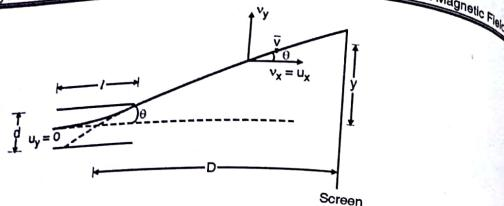

Fig. 7.2.1
In Fig. 7.2.1 we have two plates with length 'l' and separated by a distance 'd'. The upper plate is having positive charge and the lower plate is having negative charge.
- The path of electron will become parabolic till it takes an exist and later move on straight line path with velocity  $v$ , (with  $u_x = v_x$ ) and hit the screen at deflection 'y' as shown in Fig. 7.2.1.
$\therefore$  From Fig. 7.2.1